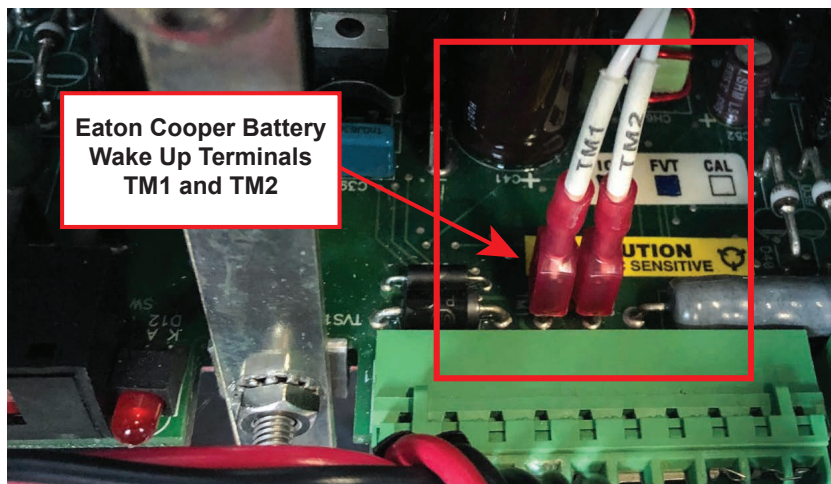

Figure 20 Eaton Cooper Battery Wake Up Terminals TM1 and TM2
2. Connect the Battery Wake Up harness (BECO #B-1870) to the Battery Wake Terminals on the board of the existing Eaton Cooper cabinet. These wires are identified as **TM1** and **TM2** and are connected to the **TM1** and **TM2** terminals on the cabinet board (Figure 20).